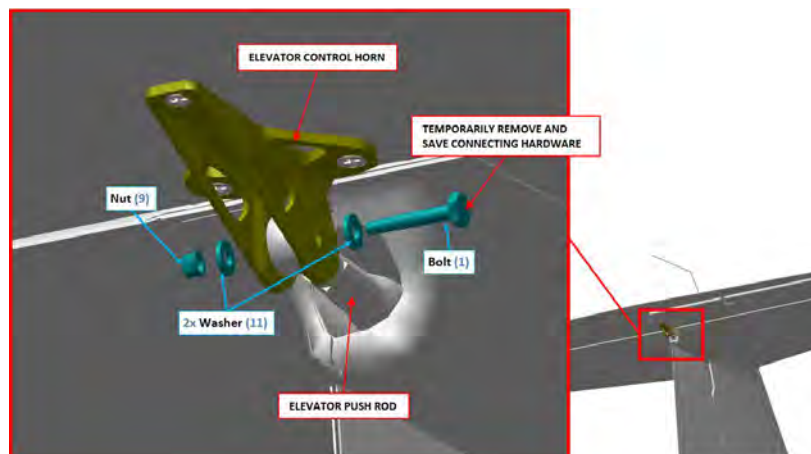

FIGURE 10-36
15. If installed, remove the hardware which secures the elevator push rod to the elevator control horn. See Figure 10-36.
19. Temporarily install the hardware which secures the elevator push rod to the elevator control horn. See Figure 10-36.